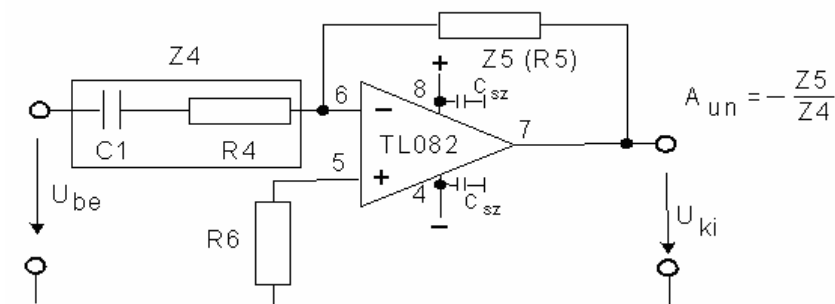

Figure 1-2. Basic inverting amplifier circuit with AC coupling on input
- 1.2. Student B: using the breadboard and the parts obtained from the tutor, build the basic inverting amplifier circuit (See fig. 1-2.). The power supply should be ± 15 V. Use AC coupling on the input.